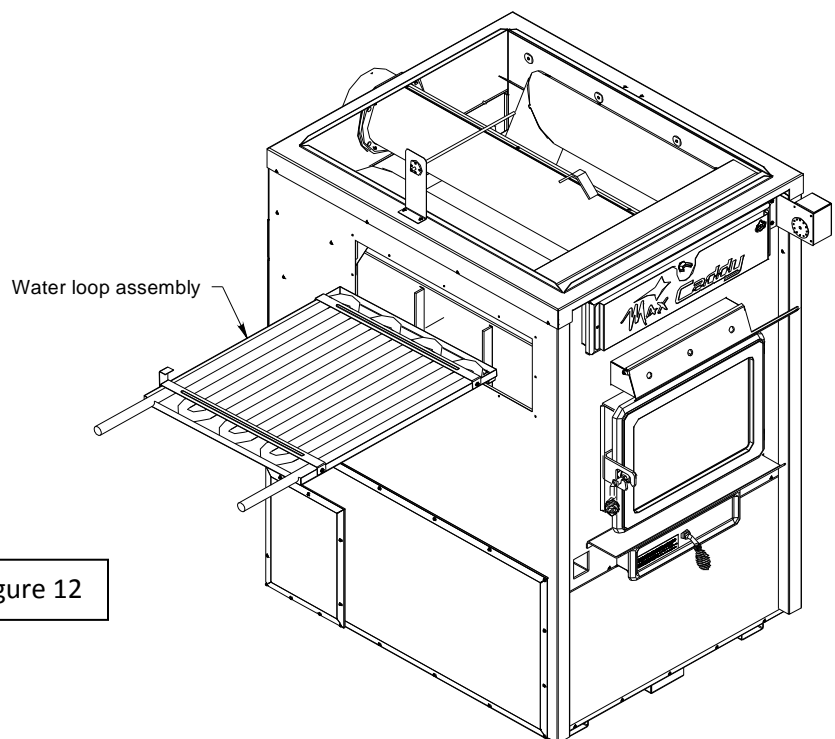

Figure 12
Step 3: Slide the hot water loop assembly into the furnace, between the firebox and the heat exchangers. It is important that the assembly be centered on the top of the firebox to ensure its stability and safe installation. (Figure 12)